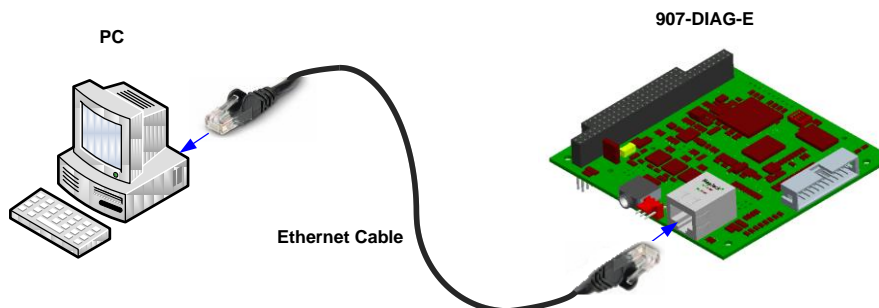

Figure 5-5: Ethernet connection, PC to 907-DIAG-E card
3. Connect your PC and your 907-DIAG-E card directly via an Ethernet crossover cable as shown in Figure 5-5 (console and remote stacks are not shown).